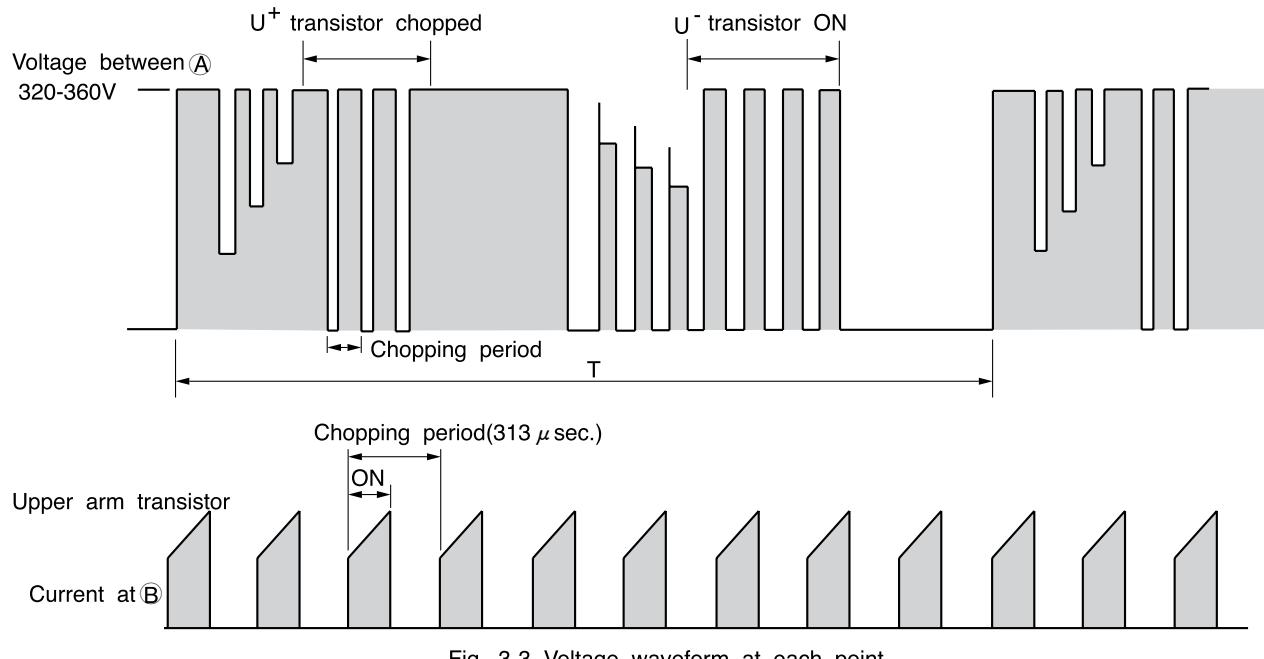

Fig. 3-3 Voltage waveform at each point
- Fig. 3-3 shows voltage waveform at each point shown in Fig. 3-1 and 3-4. First half of upper arm is chopper, second half is ON, and first half of lower arm is chopper, second half is ON.